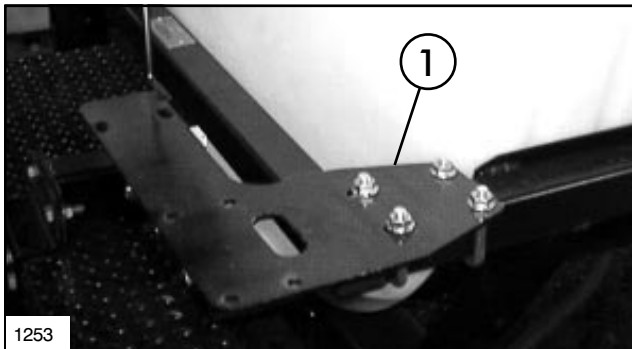

FIG. 8
**1.** Secure the Valve Plate to the rear bar of the Saddle Assembly using (2) U-Bolts and (4) 5/16" flange nuts. See FIG. 8.